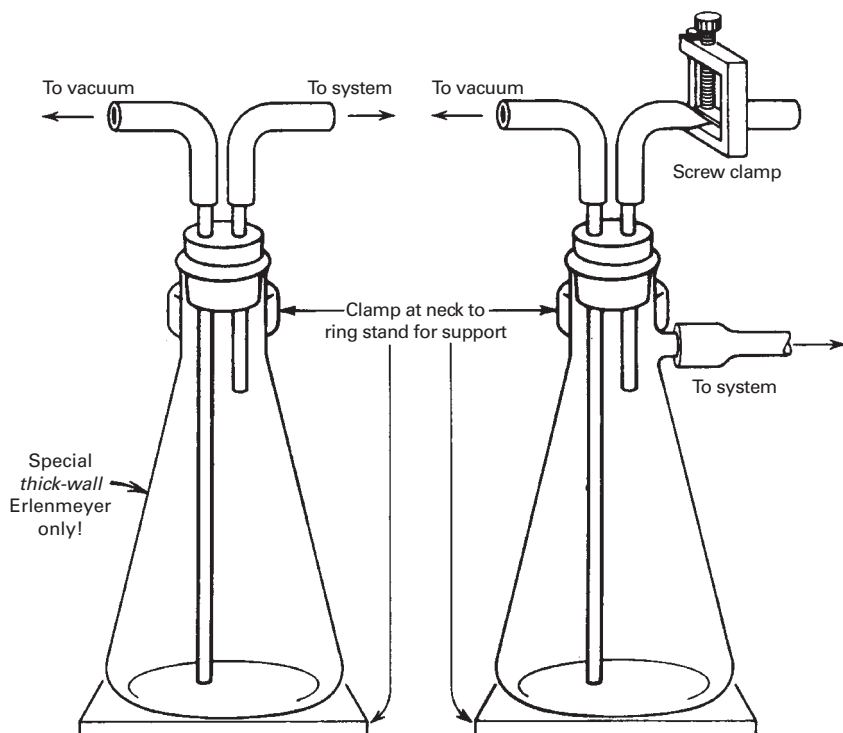

FIGURE 13.6 A couple of water traps hanging around.
2. Clamp a **filter flask** to a ring stand. This filter flask, often called a **suction flask**, is a very heavy-walled flask that has a side arm on the neck. A piece of heavy-walled tubing connects this flask to the **water trap** (see Fig. 13.6).
So, for your own protection, make up a **water trap** from some stoppers, rubber tubing, a thick-walled Erlenmeyer or filter flask, and a screw clamp (Fig. 13.6). *Do not use garden-variety Erlenmeyers; they may implode without warning.* Two versions are shown. I think the setup using the filter flask is more flexible. The screw clamp allows you to let air into your setup at a controlled rate. You might clamp the water trap to a ring stand when you use it. The connecting hoses have been known to flip unsecured flasks two out of three times.